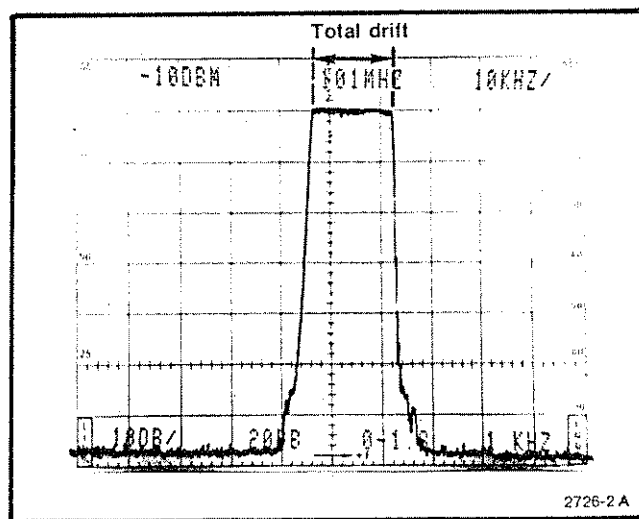

Fig. 3-6. Typical display using digital storage with MAX HOLD activated to measure drift.
e. Check frequency drift over the specified period. If the instrument has digital storage, activate MAX HOLD and measure drift as the increased width of the marker over the specified time period. (See Fig. 3-6.) If the instrument does not have digital storage, measure drift by observing the change in position of the marker over the time period.